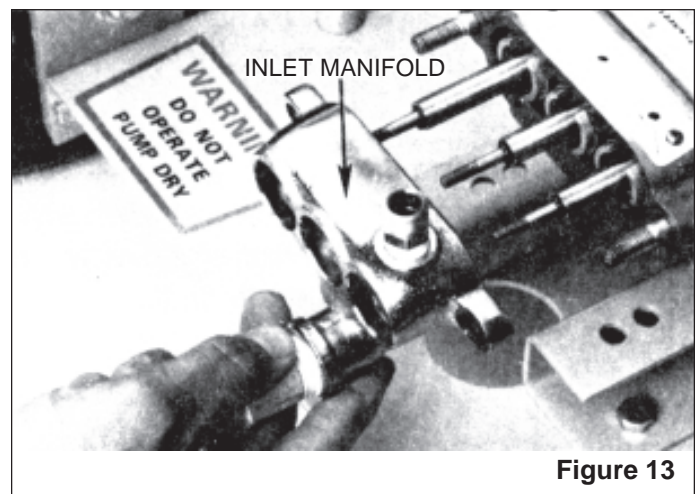

Figure 13
- a. Remove inlet Manifold by pulling straight away from pump (Figure 13).